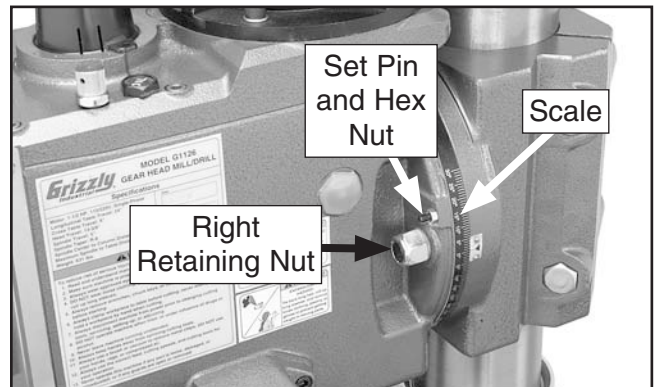

Figure 38. Right headstock side tilt controls.
5. Use a 10mm wrench to tighten the hex nut on the set pin (**Figure 38**), then remove the set pin and set it aside.